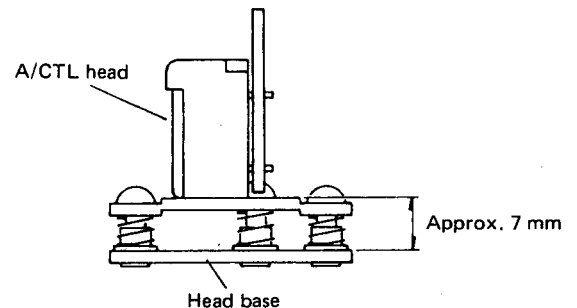

Fig. 1-5-5 A/CTL head height
4. Take out screw ② and remove the shield cap from the audio/control head.
5. Take out screws ③ to separate the audio/control head from the head base. Use care regarding springs.
- Before mounting on the main-deck, perform rough-adjustment of audio/control head height as shown in Fig. 1-5-5.